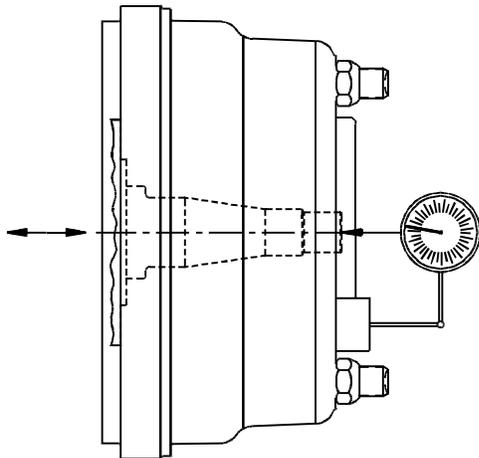

Figure 29 - Wheel End Play Measurement
13. Attach a dial indicator with a magnetic base to the face of the hub. (See Figure 29). Note the brake drum is shown for reference only.